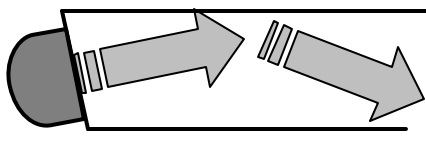

Figure 3
- Bolt ends not perpendicular to the axis of the bolt, as shown in Figure 3. Energy will be transmitted toward the side wall and ricochet along the bolt, yielding poor signal quality and possible measurement errors. Avoid alignment errors exceeding 2 degrees.